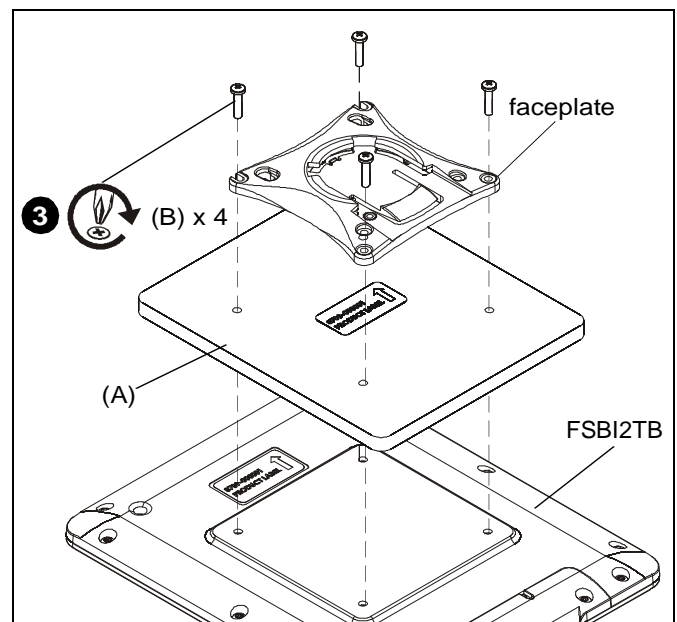

Figure 4
3. Install four M4x16mm Phillips pan machine screws (B) through KRA401 (A), Kontour faceplate and into holes on back of FSBI2TB. (See Figure 4)